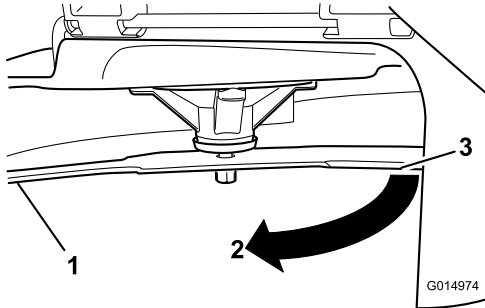

**Figure 62**
5. Measure from the tip of the blade to the flat surface (Figure 62).